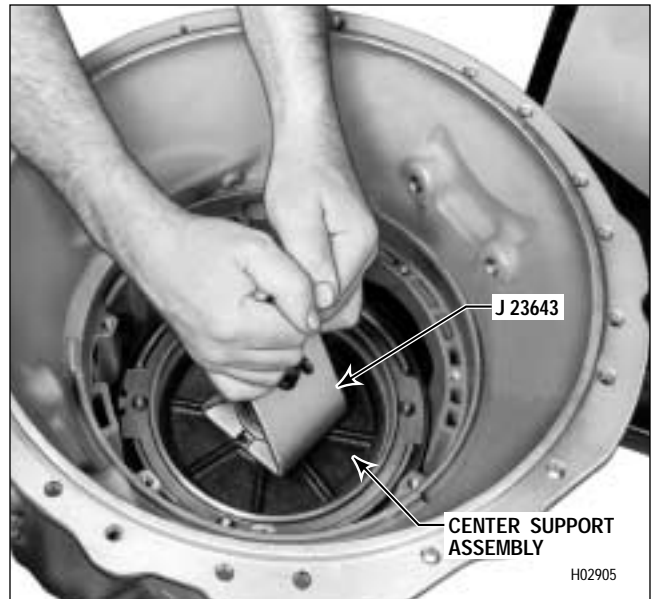

Figure 5-18. Removing Center Support Assembly
(2) Install center support lifting bracket J 23643 into the recess between the hook-type seal-rings on the center support hub (Figure 5-18).